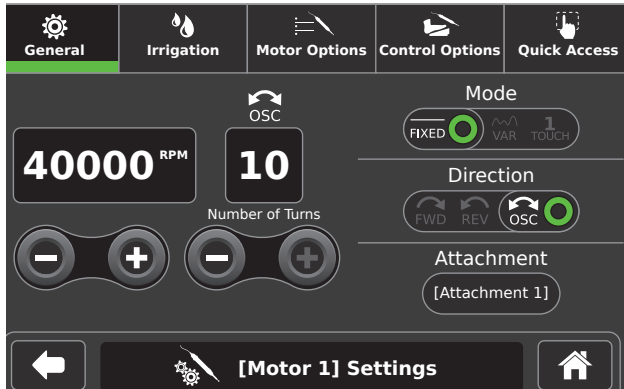

Figure 21 – General (Motor Settings) Screen
- Adjust settings as necessary (Figure 21).